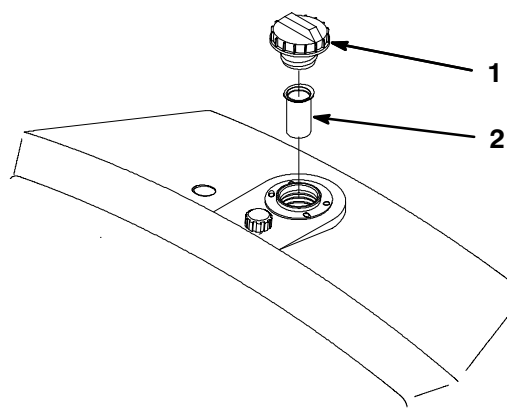

Figure 19
2. Remove the cap from the reservoir and check the level of fluid. The fluid should be up to the bottom of the screen in the filler neck (Fig. 19).